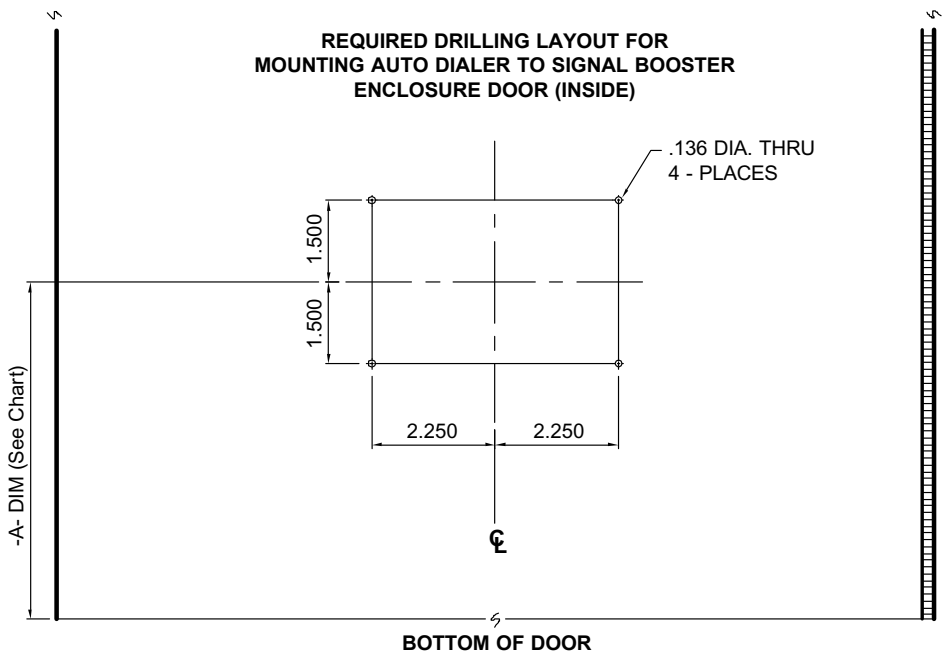

Figure 2: Template for installing the mounting plate to the cabinet door.
- 1) Loosen the clamps and open the SB II door. Use the mounting dimensions shown in **Figure 2** when laying out the position of the dialer on the door of the signal booster. Mark the position of four mounting holes on the door of the booster cabinet as shown in the drawing. Placing the dialer in the correct position on the door is important to avoid unnecessary interference with subassemblies inside the cabinet. Also note that the interconnect cables for the dialer are a fixed length and need to extend from the